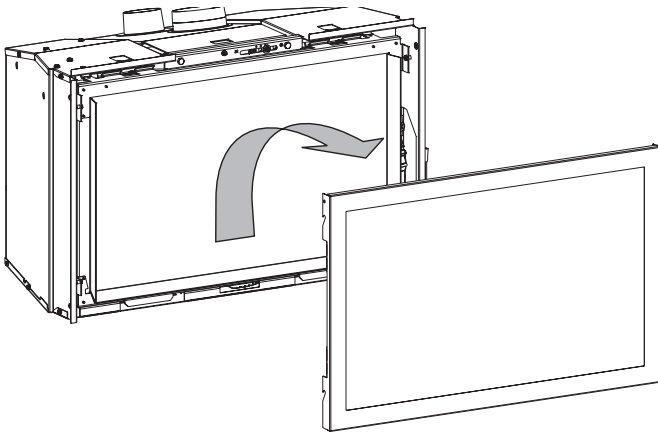

Figure 16
18. Remove barrier screen assembly by lifting the screen assembly and pulling it toward you. **See Figure 16.**